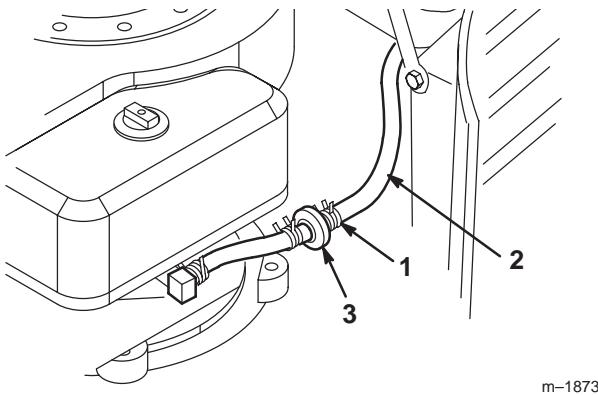

Figure 26
7. Squeeze the ends of the hose clamp together and slide up the fuel line toward the fuel tank (Fig. 26).
8. Pull the fuel line off of the filter (Fig. 26) and allow the gasoline to drain into a gas can or drain pan.
Replace the fuel filter after every 100 operating hours or yearly, whichever occurs first. The best time to replace the fuel filter (Fig. 26) is when the fuel tank is empty. Never install a dirty filter if it is removed from the fuel line.
6. Squeeze the ends of the hose clamps together and slide them away from the filter (Fig. 26).